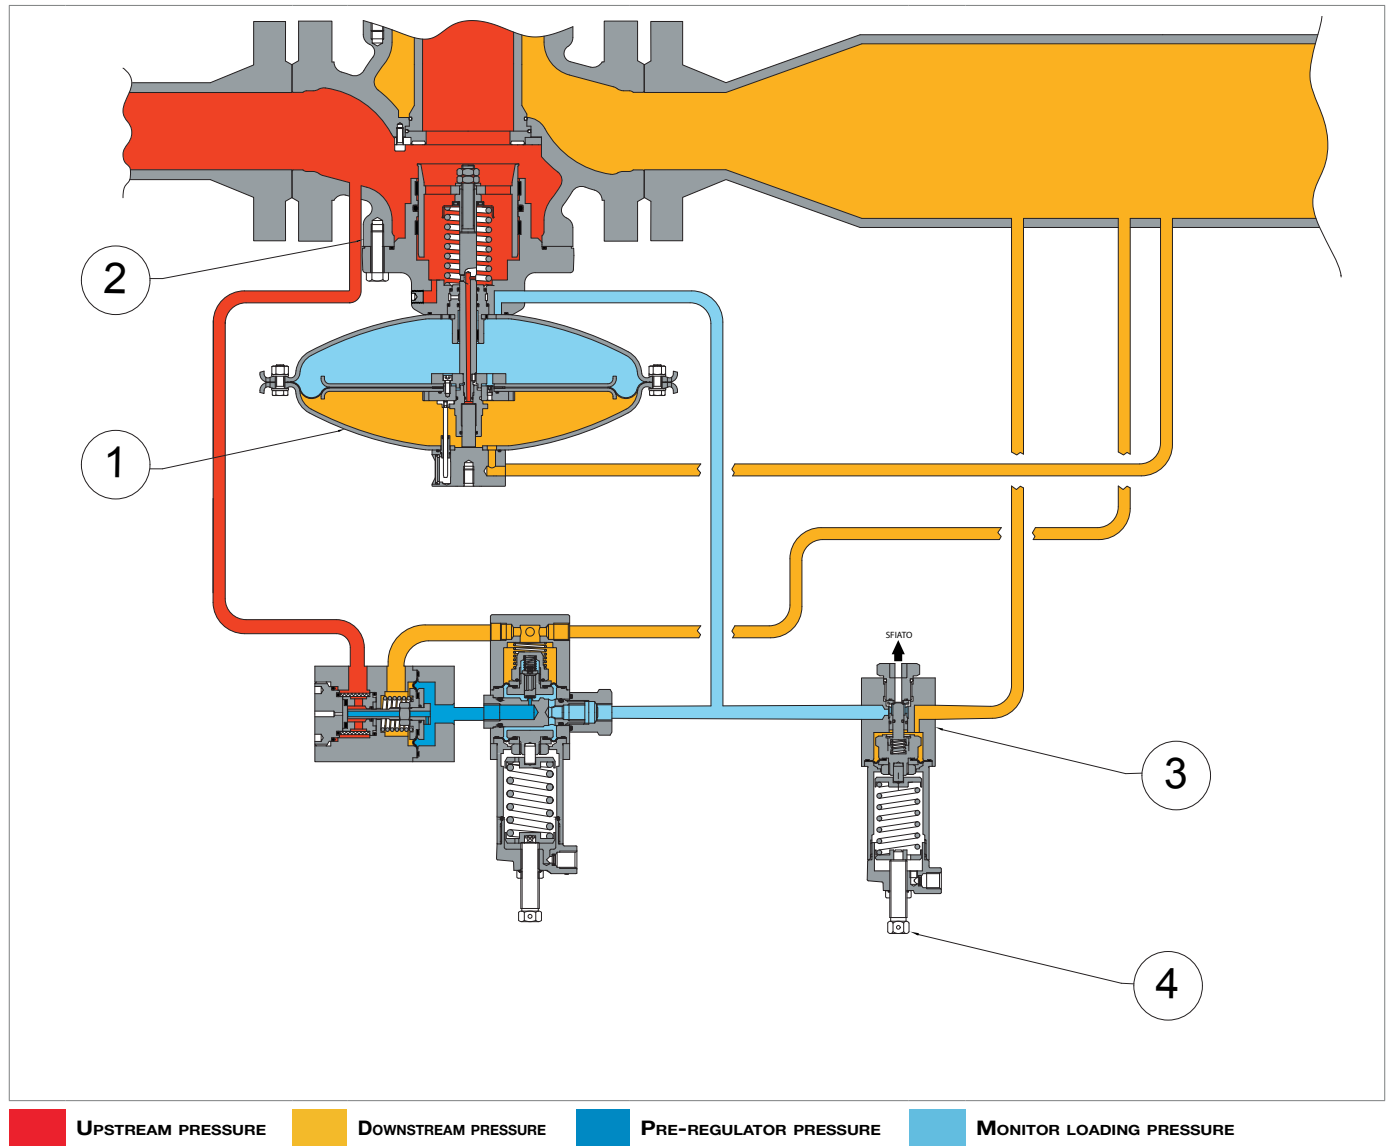

Fig. 4.10. M/A throttle valve
- M/A (3, Fig. 4.10), in the case of downstream pressure (Pd) from 0.55 bar.
- the adjusting screw (4, Fig. 4.10) for the M/A valve
Fig. 4.10 shows the M/A throttle valve.